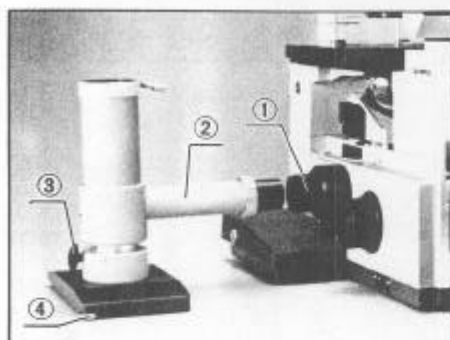

Fig. 41
Mount the multi-photo tube to the MTU light exit port; then clamp the photomicrographic attachment on it. (Fig. 41)
- 1) Unscrew the photo adapter mounted on the MTU port and replace it with the MTU adapter ①. (Fig. 41)
- 2) Insert the MTU relay tube ② into the MTU adapter ① and clamp. (Fig. 41)
- 3) Loosen the base clamping screw ③, and place the base on the desk. (Fig. 41)
- 4) Rotate the 4 leveling screws ④ to keep them in contact with the desk surface. (Fig. 41)
- 5) Clamp the base clamping knob ③. (Fig. 41)